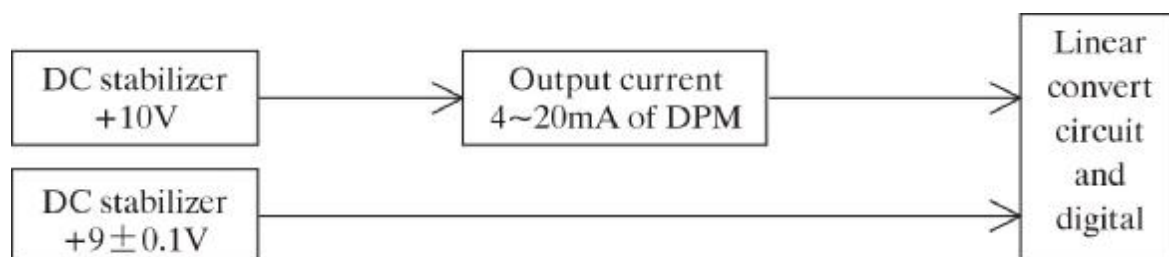

Fig 1, Operating concept frame of DPM
6.1 Operating concept of DPM is as Fig 1.